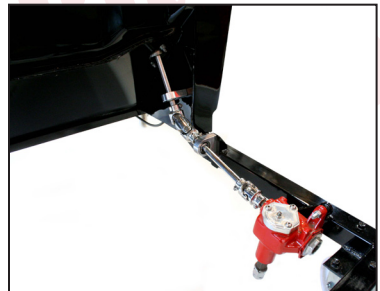

Figure 2
2. Attach the column to the mount with two steering column drops. Long oval holes have been provided to allow full adjustability of the position of the drops. The bigger the difference in length of drops, the greater the angle of the column. **(Figure 2)**